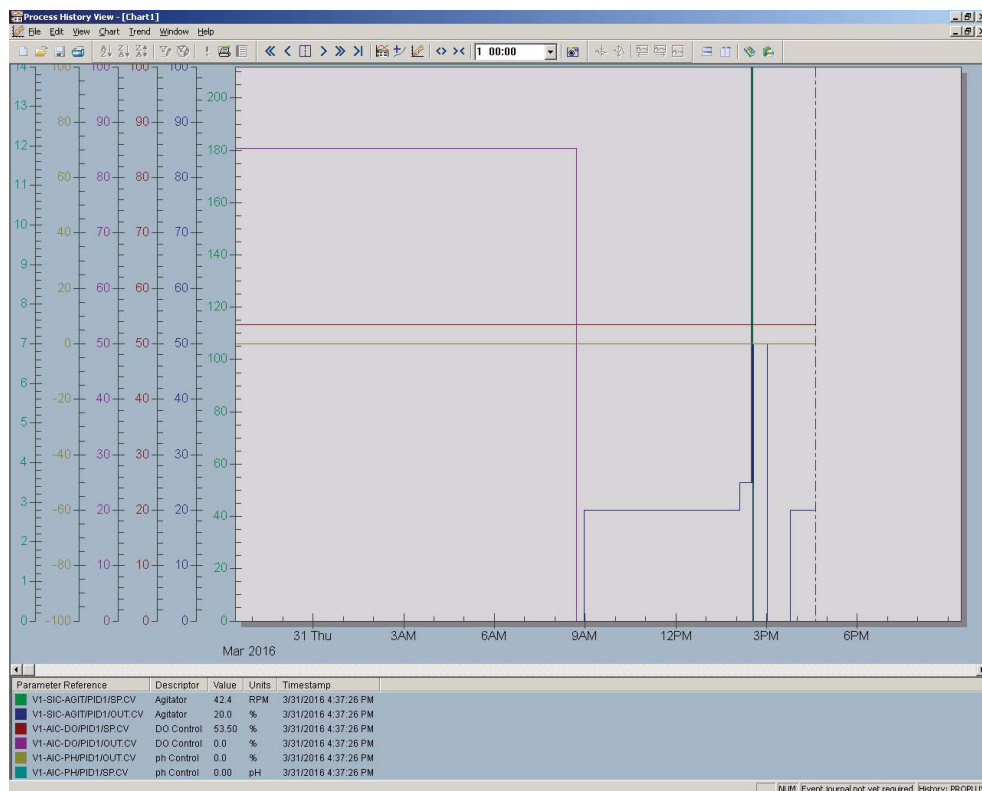

Figure 3.49. Chart builder example.
6. After you add and configure the elements to your liking, click **Build Chart**. The **Process History View** window appears, showing the chart with your selected parameters. The chart (Figure 3.49) contains the following features: